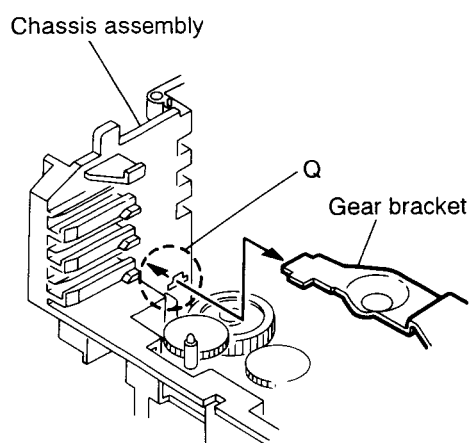

Fig. 5-49
3. From the notch (Q section) on the chassis assembly fixing the edge of gear bracket, remove and take out the gear bracket (See Fig. 5-49).